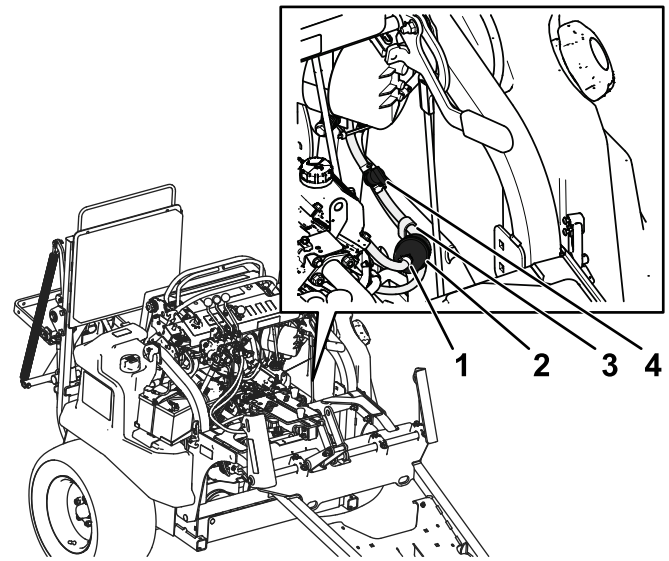

Figure 85
8. Clamp the fuel lines on both sides of the fuel filter (Figure 85).
9. Squeeze the ends of the hose clamps together and slide them away from the filter (Figure 85).